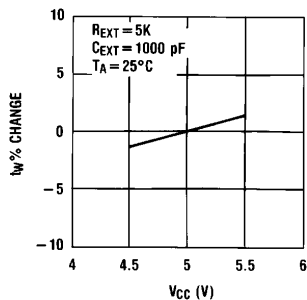
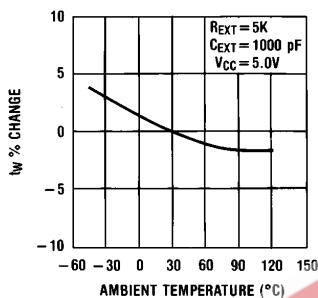

FIGURE 3
FIGURE 4
5. Output pulse width versus V_{CC} and operation temperatures: Figure 3 depicts the relationship between pulse width variation versus V_{CC} . Figure 4 depicts pulse width variation versus ambient temperature.